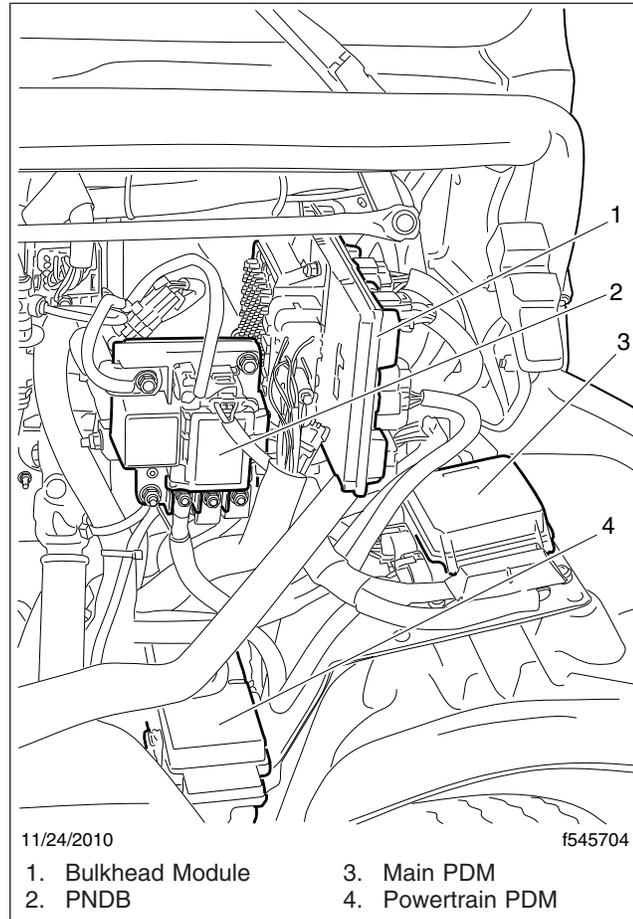

Fig. 2, Wire 33 Insertion Point
- 2.11 Place 1/4-inch (7-mm) diameter conduit on the engine side circuit 433 wire and insert the other end of wire 433 (green) from the A06-83265-000 harness in PNDB cavity 3, which is powered by fuse C. The PNDB is located on the frontwall next to the bulkhead module. See **Fig. 2**.